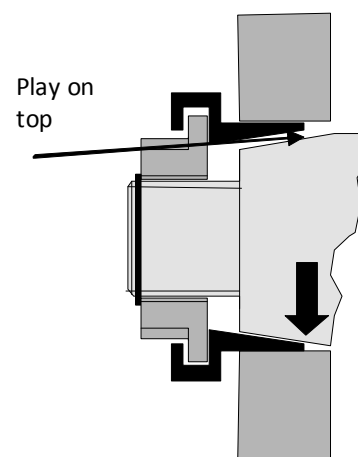

Fig. 5
- b) the play in the support is too great for the taper sleeve (exceeds 3 mm). Switch to over-sized taper. Tighten the taper nut to the specified torque in order to expand the taper sleeves. First "unload" the equipment. The weight of the equipment may prevent effective tightening (see Fig. 5).